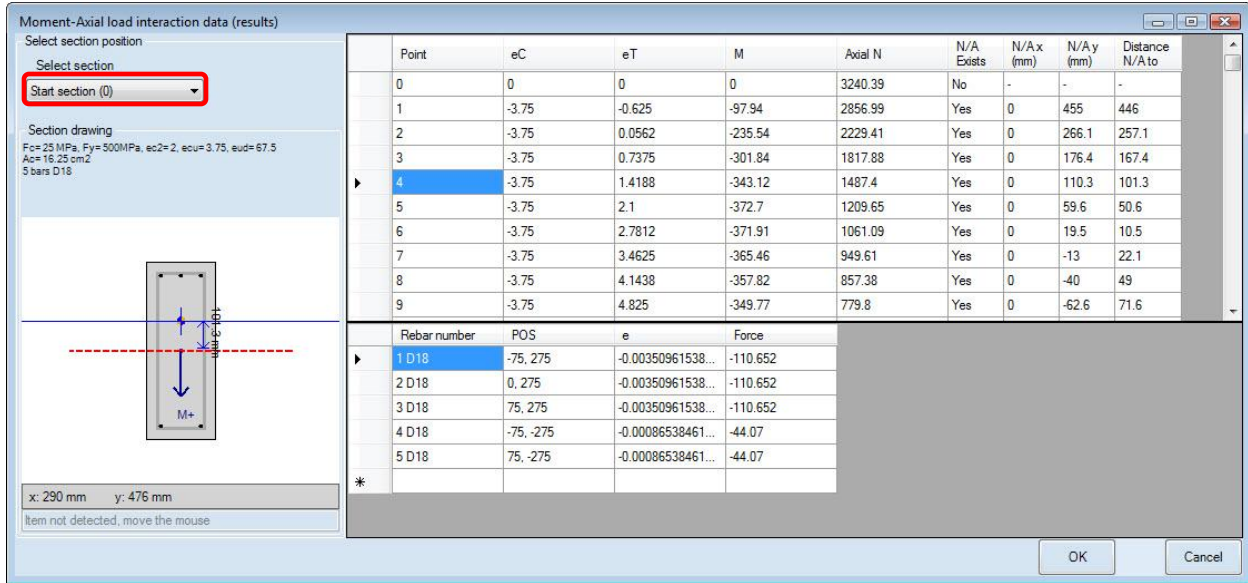

Figure 3.5.2: M-N interaction tables for each section.
- Choose to show interaction table data (Figure 3.5.2)